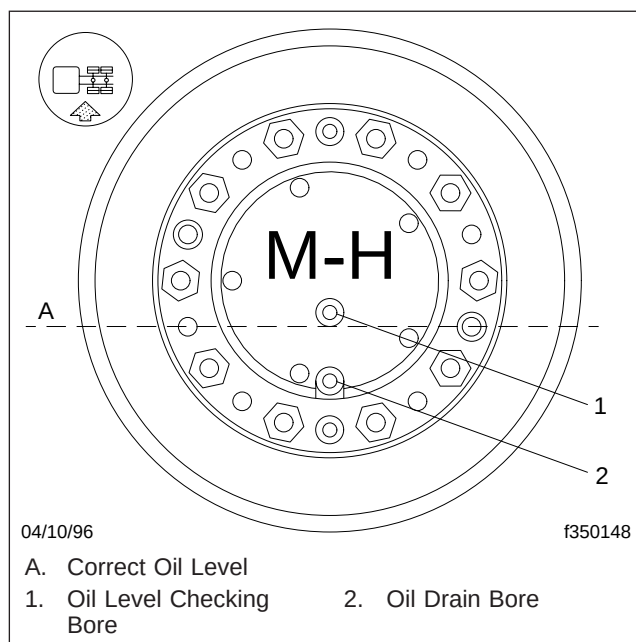

Fig. 4, All-Wheel-Drive Front Axle Hub, MT-17 Axles
- 2.1 The oil drain bore must be at the bottom in order to check the oil level. See Fig. 4.